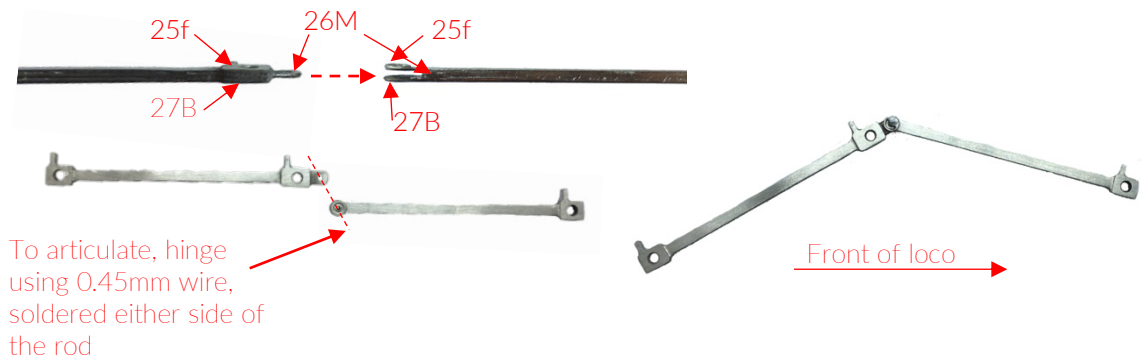

Fig 1.1 – The coupling rods are made by laminating 3 layers, and either articulating the knuckle joint, or soldering it solid.
1.1 – Coupling rods. For the right hand side coupling rods, laminate 25f (front layer), 26m (middle layer) and 27b (back layer) together. The rods are constructed in 2 halves. The knuckle joint is towards the front. Once soldered, file the edges smooth and polish with fine grit emery paper. If making the rods articulated, carefully solder a short length of 0.45mm wire through the holes in the knuckle joint (Fig 1.1). To avoid solder from flowing inside the joint and binding it up, use permanent marker or similar on the protruding part of the rear half, and use minimal solder. If making the rods fixed (no articulation), align the knuckle joint holes with 0.45mm wire and solder the whole joint. Repeat the above using 28f, 29m & 30b to make the left hand side rods. The knuckle joint is towards the front of the locomotive.